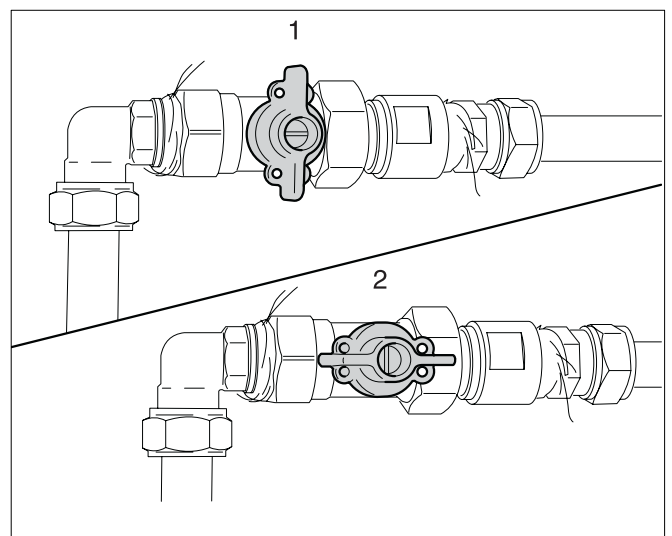

Fig. 88 Gas shut-off valve closed (1), gas shut-off valve open (2)
- Open the gas shut-off valve (see fig. 88, pos. 2).